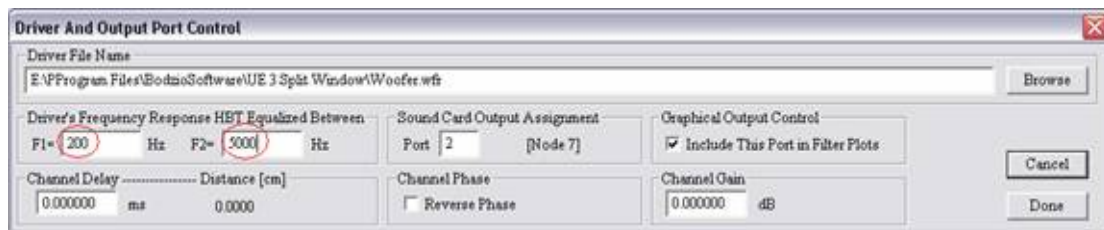

Figure 134. Load the woofer file and set the necessary parameters.
- Perform the same operation for the woofer. Set the limits for the HBT equalization so the F1 is below the crossover point and F2 is above it. For this example F1 = 200 Hz and F2 = 5k Hz have been initially chosen Figure 134. These may have to be adjusted after viewing the response plots.